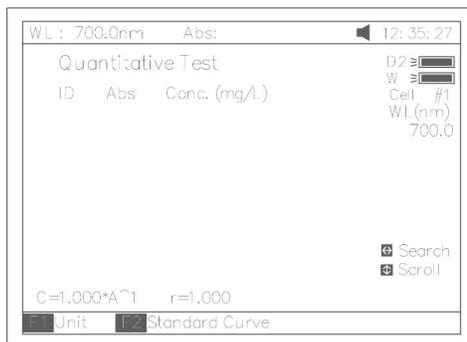
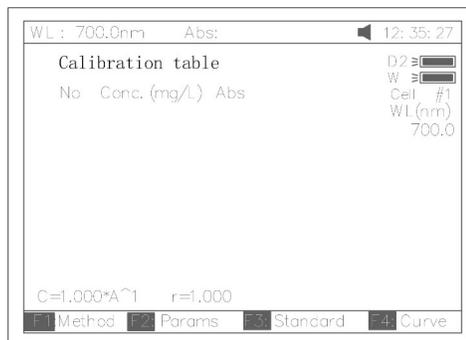
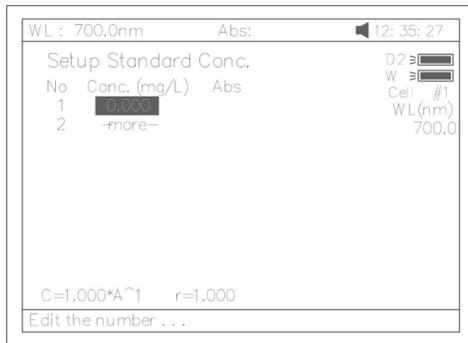

Fig 26
Fig 29
Fig 30
Press **【2】** in Main Menu for “Quantitative” Test (Fig 26). Press **【ESC/STOP】** to exit.
Note: .If no automatic changer installed “cell #1” will disappear in Fig26.
Press **【 F2 】** in Fig 26 for more items to select .See Fig 29.
- a) Press **【 F1 】** in Fig 29 to select fitting method. There are 4 methods for you to choose: Linear fit, linear fit through zero, square fit and cubic fit.
- b) Press **【 F2 】** in Fig 29 to enter directly a known standard curve. Fig29A.
3.3 Press **【 F3 】** in Fig 29 to establish a standard curve by measuring a group of standard samples. See Fig 30.
b) Known standard curve, which is not saved in the instrument. See 3.2. For Fig 29 enter a known standard curve directly.
Note: All sample results must be taken in screen Fig26.